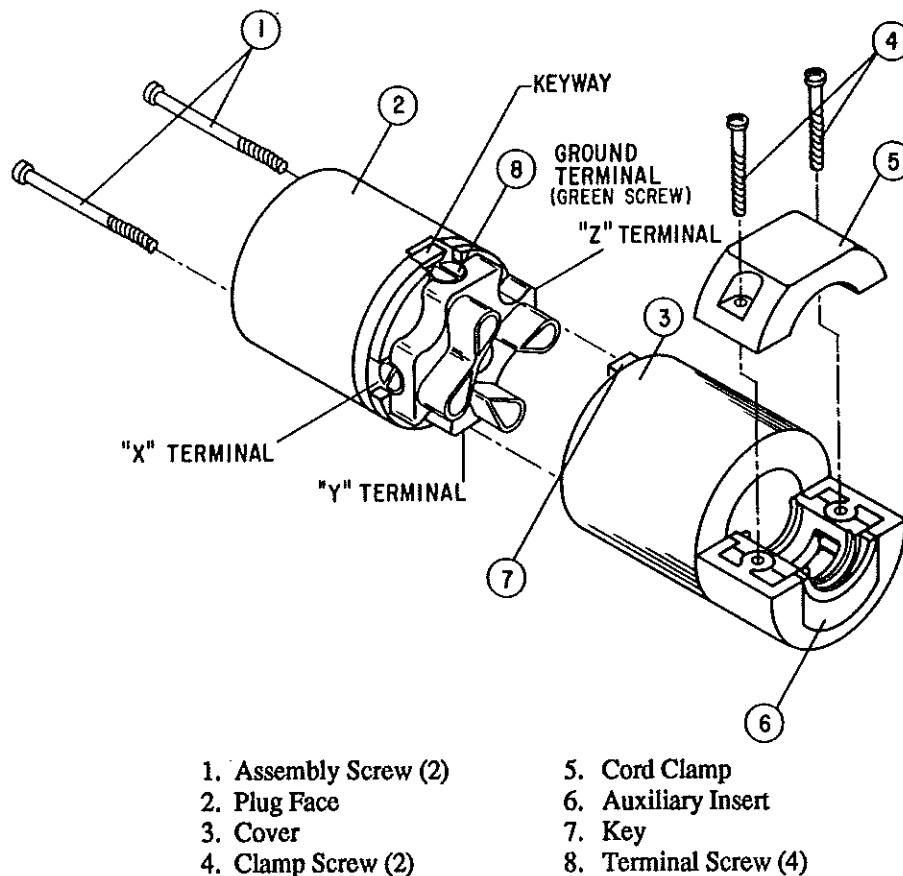

Figure 3.4 Input power cable receptacle plug
2. Disassemble the receptacle plug. See Figure 3.4.
- a. Loosen the two assembly screws (1) securing the receptacle plug face (2) to the cover (3) until plug face can be removed from cover.
- b. Open cord clamp (5) by loosening the two clamp screws (4) securing the clamp to the cover.